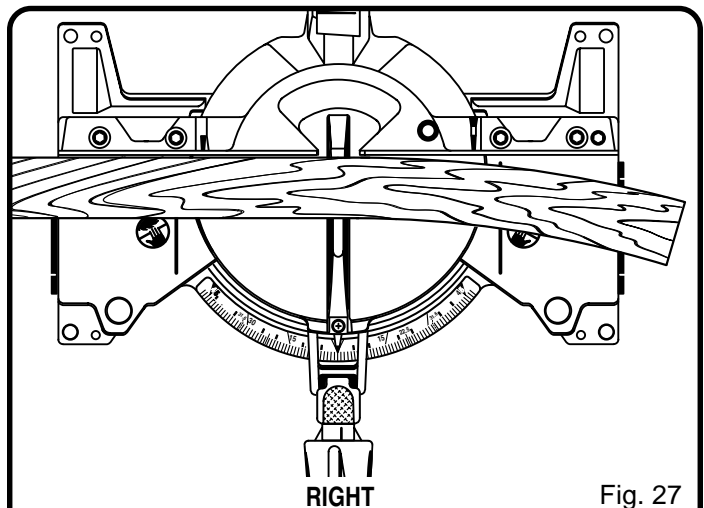

Fig. 27
- Place the workpiece flat on the miter table with one edge securely against the fence. If the board is warped, place the convex side against the fence. If the concave edge of a board is placed against the fence, the board could collapse on the blade at the end of the cut, jamming the blade. See Figures 27 and 28.
See Figures 27 and 28.
When cutting warped material, always make sure it is positioned on the miter table with the convex side against the fence as shown in figure 27.